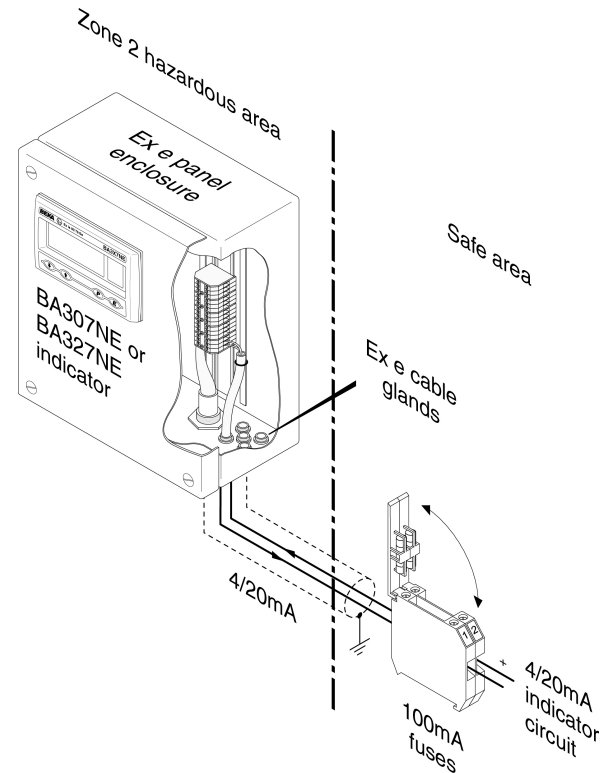

Fig 20 Typical installation in Ex e panel enclosure
To comply with the requirements of BS EN 60079-14 *Electrical installations design, selection and erection*, each of the wires entering the hazardous area should be individually fused and contain a means of isolation. These two requirements are frequently satisfied by using fuse holders with easily removable fuses and removing the fuses to achieve isolation. This is a satisfactory method at the low voltages and currents common in instrumentation systems. Clear identification of, and easy access to the means of isolation is essential for their effective use. It is also necessary to ensure that the maintenance procedure makes sure that unauthorised re-closure of the switches does not occur. It is not considered necessary to have a means of isolation or electrical protection for the screen. Figure 20 illustrates an example of this type of switch fuse terminal block.
1. The indicator should be installed generally as shown in section 5 and Fig 20.